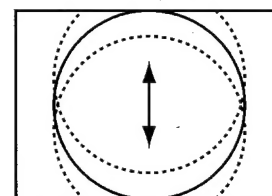

Fig.2
- Adjust the horizontal location to obtain picture centering (fig. 2)